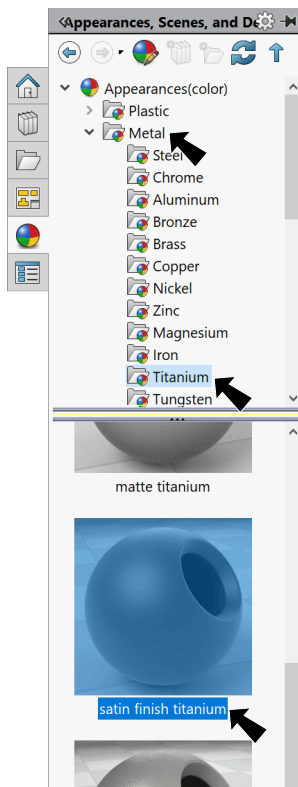

Fig. 99
Step 2. In the Appearances Task pane, expand **Metal**, click **Titanium** and in the lower pane select **satin finish titanium**, Fig. 99.